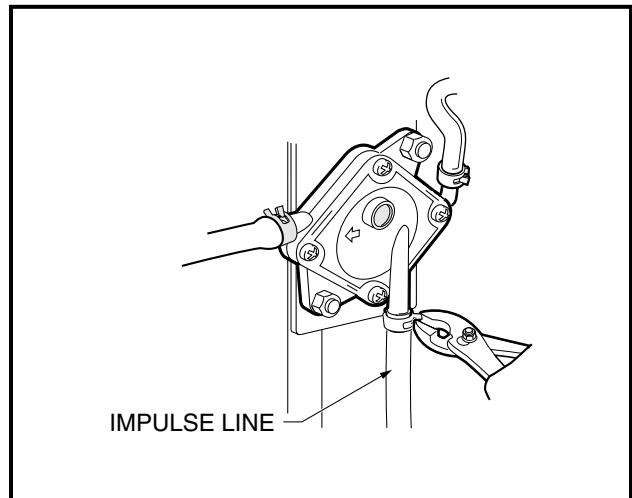

**Figure 16-9 Carburetor Vent Tube**
- 4.1. Disconnect the carburetor vent tube from the carburetor (**Figure 16-9, Page 16-7**).